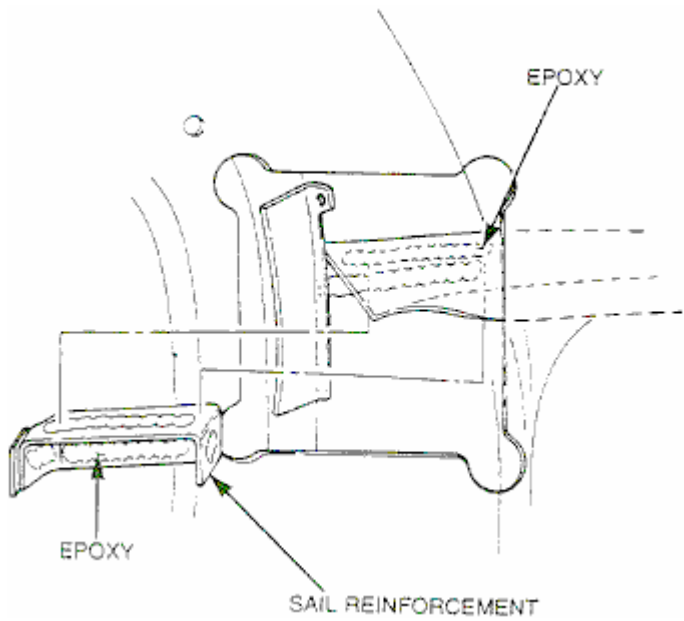

FIGURE 10A
26. Apply the two-part epoxy to the sail panel and the sail panel reinforcement, and place into position (refer to Figures 10A and 10B). The reinforcement should fit snug and should not require clamping. If the unit is not equipped with a brace from the factory, then ensure that the offset is filled with two-part epoxy material.